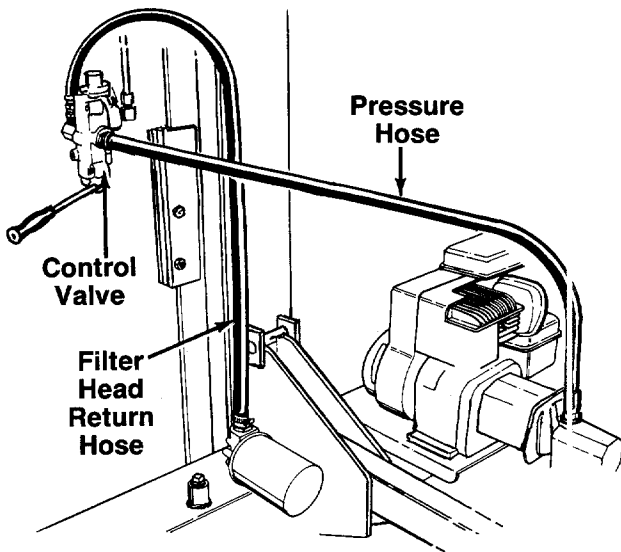

FIGURE 11.
2. Attach the end of the hose to the fitting on top of the filter head. See figure 11. Place the hose clamp at the base of the fitting, and tighten securely.
- The pressure hose is attached to the top of the pump. Route the hose as shown in figure 11. Secure the pressure hose to the bottom of the control valve, using an adjustable wrench.